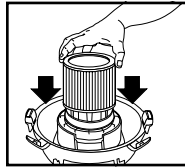

FIGURE 14
20. With the tank cover in an upside down position, slide the cartridge filter down over the lid cage, pushing until the filter seals against the cover. **FIGURE 14.**